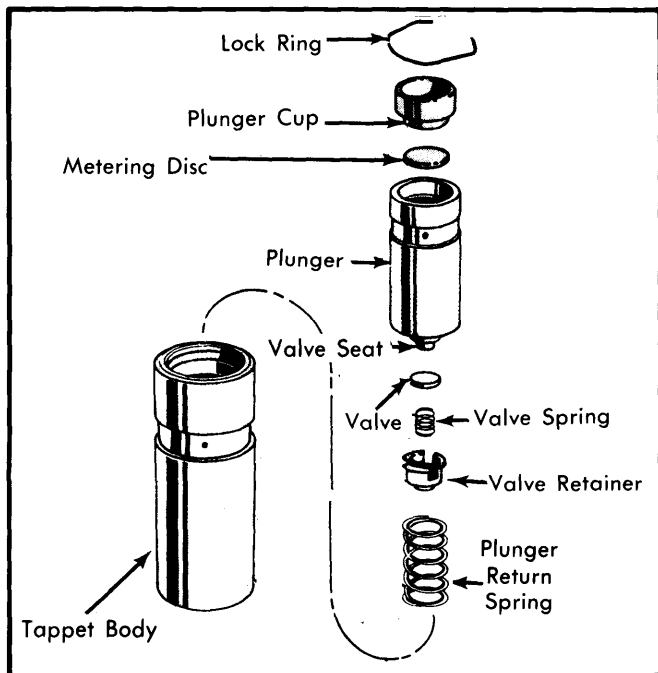

Fig. 2 Exploded View of Hydraulic Valve Lifter Assembly
2) Inspect lifter face for concave wear and if present, replacement of camshaft and lifters is necessary. If lifters are disassembled for cleaning and inspection, after reassembly (see Fig. 2), they should be tested using suitable leak down tester according to manufacturer's instructions.